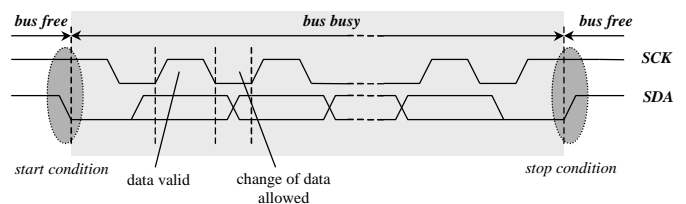

Fig. 2.1: Bit transfer on the 2-wire interface
The transmission is controlled by the serial clock (SCL). The SCL line is used to control each data bit transferred. The data on the SDA line must be stable during the high level of the SCL line. Level of the SDA line can only change while the clock pulse on SCL is low. Data changed during SCL high periods will indicate a start or stop command (see figure 2.1).
- **Start Condition:** A high-to-low transition in SDA line with SCL high is a start condition (see figure 2.1). Only the master device may generate this situation. The bus is considered to be busy after a start condition. A start command always precedes any command in the bus.
(see figure 2.1). After the stop condition, the bus is considered to be free, and a high level must be set in both SDA and SCL lines.